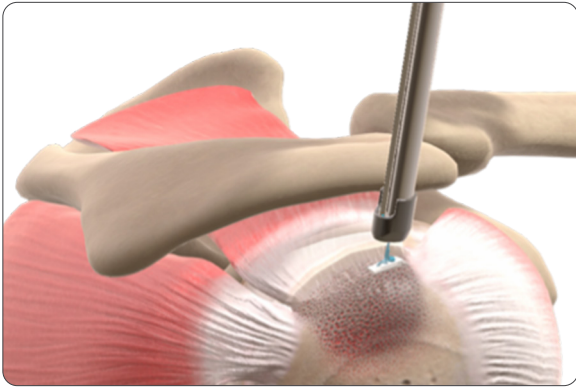

Figure 1
1. Position distal tip of introducer shaft at the anchor site (**Figure 1**) and apply counter-pressure utilizing thumb rests (**Figure 2**) while tensioning the repair suture. Apply slow, controlled tension. Tensioning can be ended once stitch stops visibly compressing.